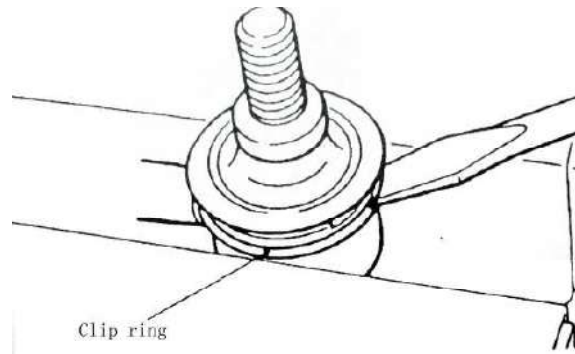

Fig.14B-31
1) Remove the dust cover. (Fig.14B-31)